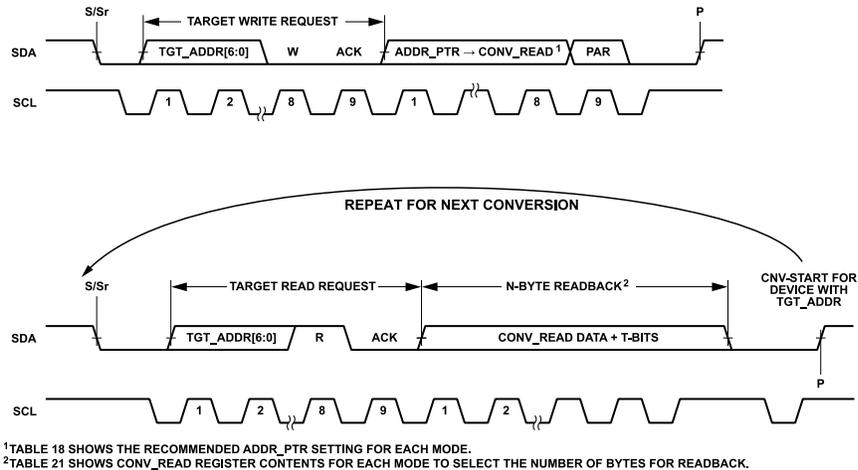

Figure 66. Triggering ADC Conversions Using CONV\_READ
To trigger ADC conversions using the CONV\_READ register, update the ADDR\_PTR to point to any of the register addresses of the CONV\_READ register (from 0x50 to 0x53). Then, perform a dummy I3C read from the AD4062 and issue a repeated start (Sr) followed by a stop (P) at the end of the data phase. The SDA rising edge of the stop (P) triggers an ADC convert-start as shown in Figure 66. In sample mode, the convert-start trigger results in a single conversion. In burst averaging mode, the convert-start trigger results in a burst of multiple conversions which are used to generate a single averaged result (see the Modes of Operation section).